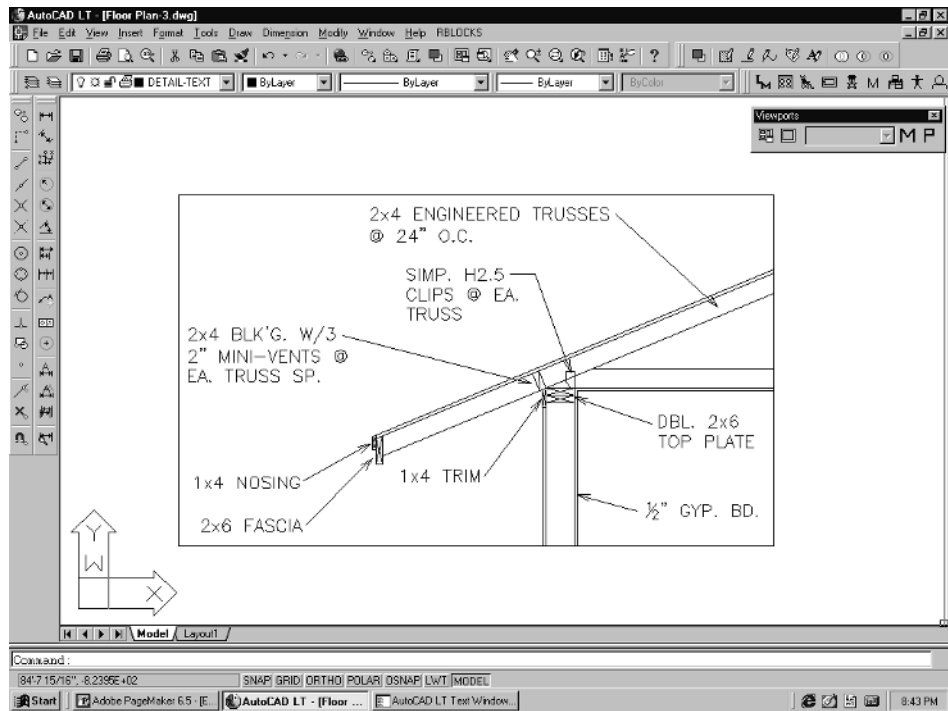

Figure 5-15
15. Change your current layer to **DETAIL-TEXT**. Start drawing your leaders by either picking the **Leader** button on the Dimension toolbar, or selecting **Leader** from the Dimension pull-down menu. See Figure 5-15. Add your labels based on Sheet #4.